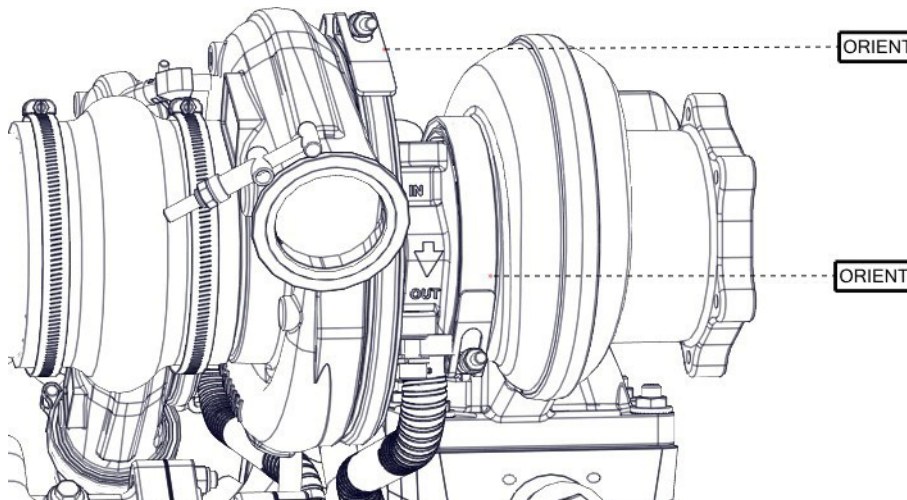

Figure 22. Compressor Housing Orientation
6. Orient both turbocharger compressor housings. (Refer to Figure 22)